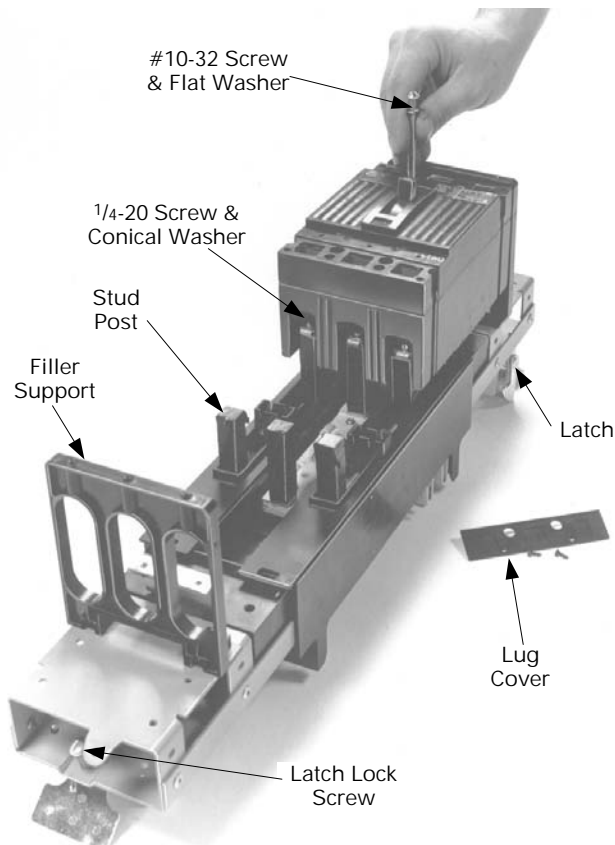

Figure 4. Installing the breaker on the module.
- a. **Main devices (lugs only on ON side of circuit breaker).** Place the OFF side of the breaker over the stud posts, as shown in Figure 4. Fasten the breaker to the module with  $1/4$ -20 x  $3/4$ " screws with conical washers and #10-32 x  $3/4$ " screws with #10 flat washers. After all screws are in place, tighten the  $1/4$ -20 screws to 40–50 in-lb and the #10-32 screws to 25–30 in-lb.
- b. **Branch devices (lugs only on OFF side of the breaker).** Remove the lug cover, if present. Place the ON side of the breaker over the stud posts, as shown in Figure 4. Secure the breaker to the module with  $1/4$ -20 x  $3/4$ " screws with conical washers and #10-32 x  $3/4$ " screws with #10 flat washers. **Do not** remove the protective cap or tape from the top portion of the stud posts unless a breaker is to be installed in that position. After all screws are in place, tighten the  $1/4$ -20 screws to 40–50 in-lb and the #10-32 screws to 25–30 in-lb. Replace the lug cover, if present.